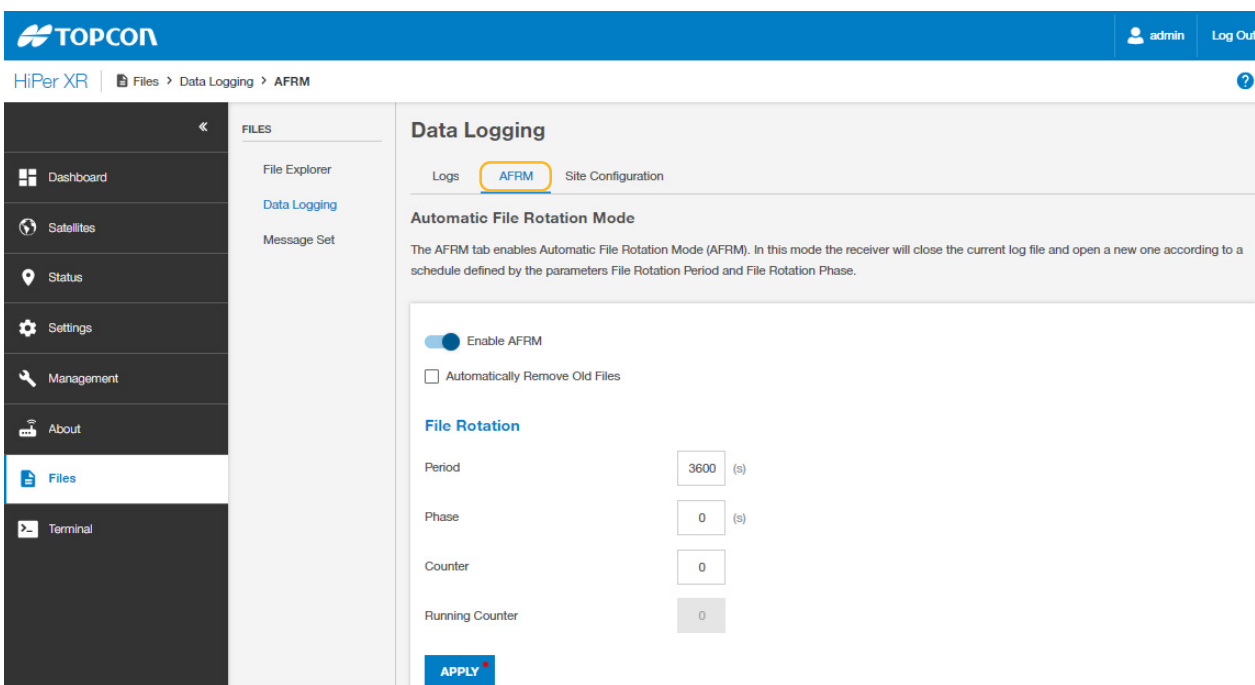

Figure 2-27: Data Logging - AFRM
4. Select the **AFRM** tab to enable AFRM (Figure 2-27).